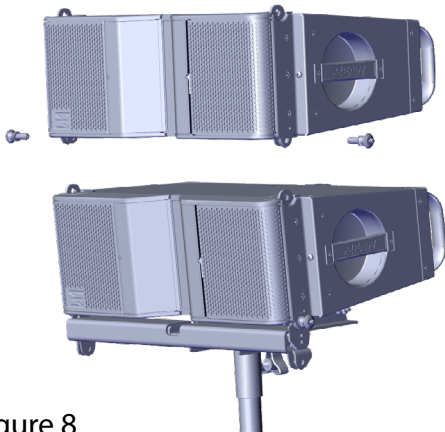

Figure 8
- For adding additional NT206L to the array, place the next module on top of the first NT206L and pin the front locations using the pins on the second cabinet (Figure 8).